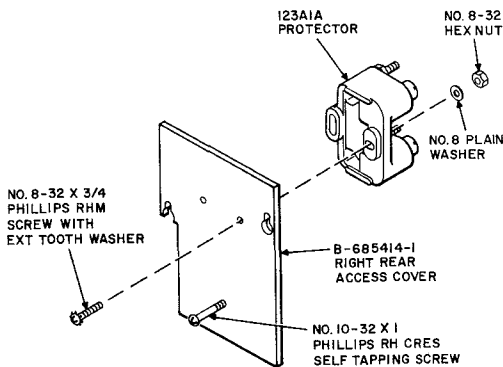

Fig. 25—Assembly of 123A1A Protector on Right Rear Access Cover
**4.21** To replace old stationary access cover with new detachable access cover (Fig. 25), perform following operations.
- (e) Install protector on new access cover per Fig. 25 using hardware retained in (d).
- (f) Install a 10-32 by 1 Phillips RH CRES self tapping screw per Fig. 25. This screw serves as a handle.